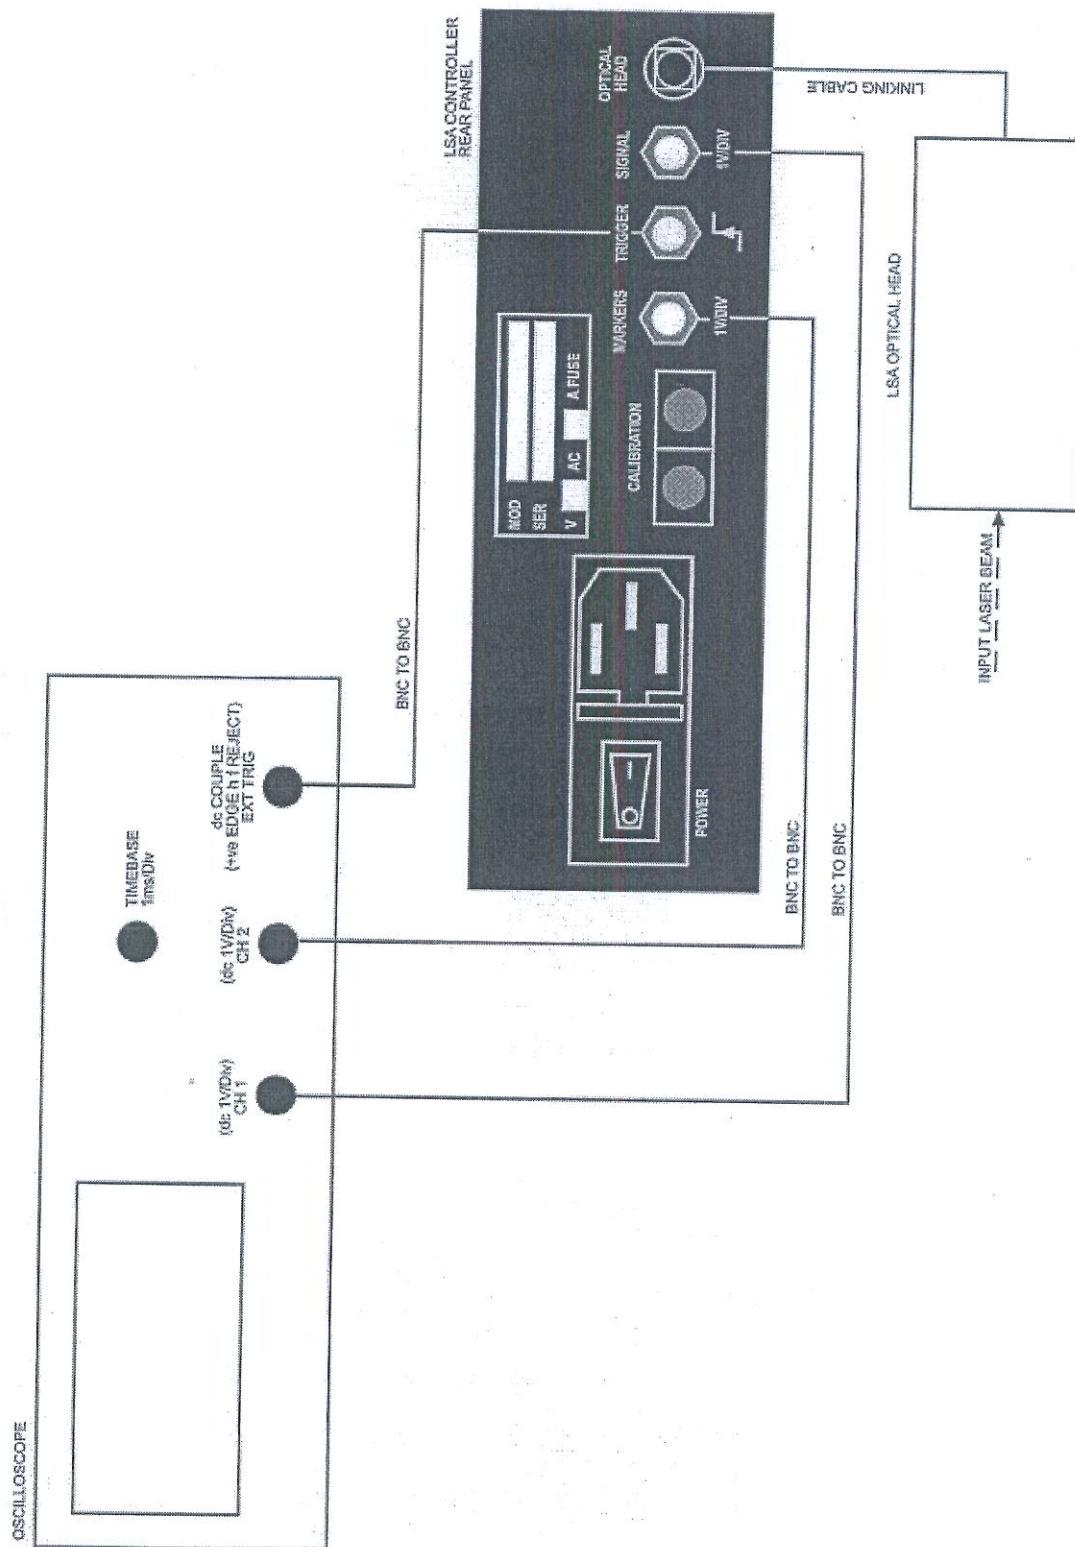

Figure 1 – Connecting the LSA to your Oscilloscope
6. Use the three coaxial cables supplied to connect the control unit and the oscilloscope as shown in Figure 1. The oscilloscope should initially be set as follows:
- (8) In both cases use the SPAN control or the scope timebase to expand the spectrum and wavelength scale until the 0.2nm marker pulses are clearly visible. It may also be worth changing the Cursor Wavelength to a value nearer the laser peak.
- (9) Locate the LSA controller rear panel calibration switches (shown on Figure 1).
- (10) Use the trimmer tool to adjust the left hand (coarse) and right hand (fine) switches to place the peak wavelength as near as possible to the 632.8nm (E201) or 1265.6 (E202) marker.